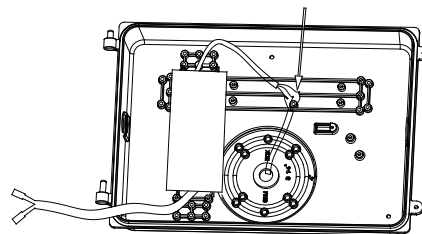

Figure 4
4. Make wiring connections per "Electrical Connections" section and make sure the good wire protection. (Figure 4)